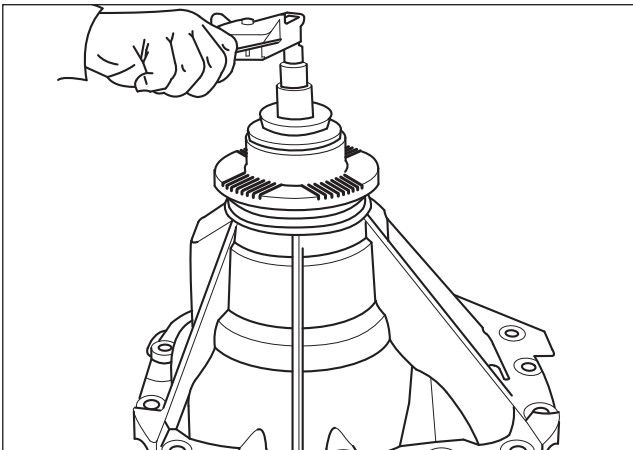

Fig. 2.64
5. Check pre-load by measuring the torque by turning flange lock nut. $6\text{Nm} \pm 2\text{Nm}$. (Fig. 2.64)